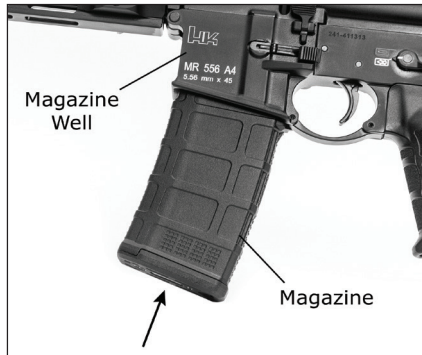

Fig. 16 – Insert loaded magazine into the magazine well
3. Insert a loaded magazine into the magazine well until the magazine catch engages the magazine (Fig. 16).